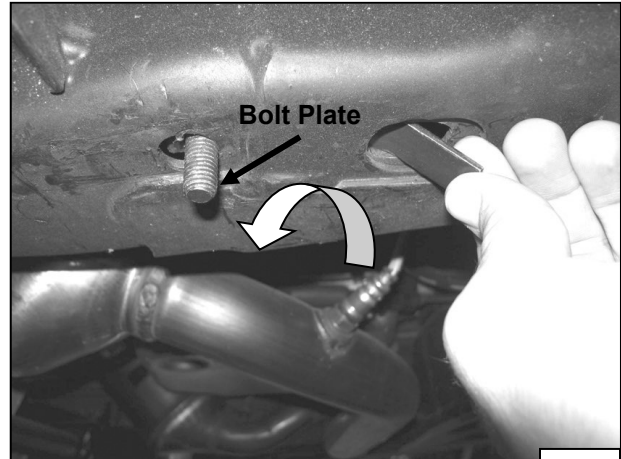

Fig 4
- Locate the factory slotted and rounded hole on the bottom of the frame by the front body mount. Insert (1) Bolt Plate through slotted hole so bolt drops through rounded hole (**Figure 4**).